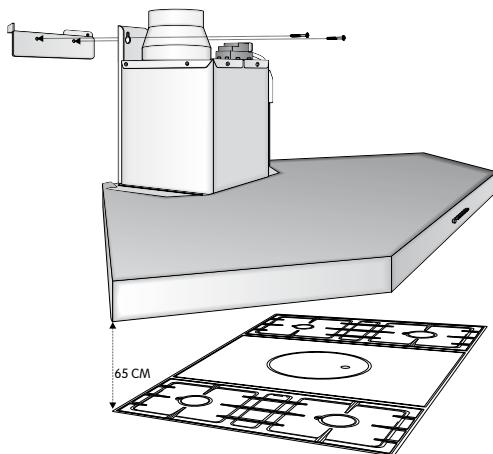

Fig. 8
- Preferably use a Ø150 or Ø125 tube, or possibly flexible, and fix it with a hose clamp to the reduction fitting (**Fig 8**).